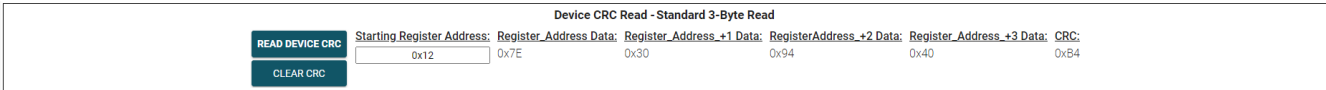
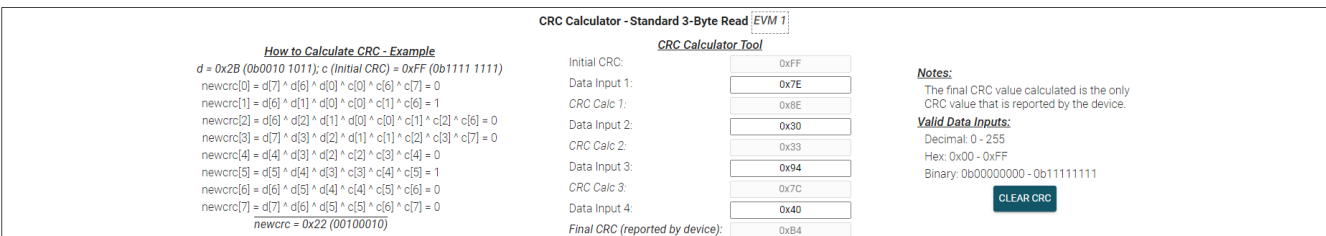

Figure 3-19. Device CRC Read - Standard 3-Byte Read
Figure 3-21. Final CRC Calculation
- b. Press the *Read Device CRC* button to read the 4 bytes of data, as well as the CRC byte (see Figure 3-19 below).
- b. For this example, the data read by the device from Figure 3-19 is what shall be used to verify the CRC that was read back by the device.
- ii. Enter the rest of the data read back by the device into the *Data Input* boxes (see Figure 3-21 below). The value shown by *Final CRC (reported by device)* ought to be the same as the CRC byte reported in Figure 3-19.